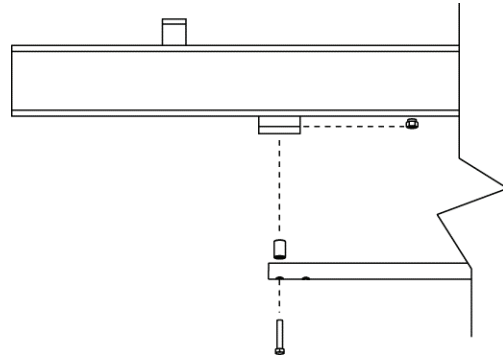
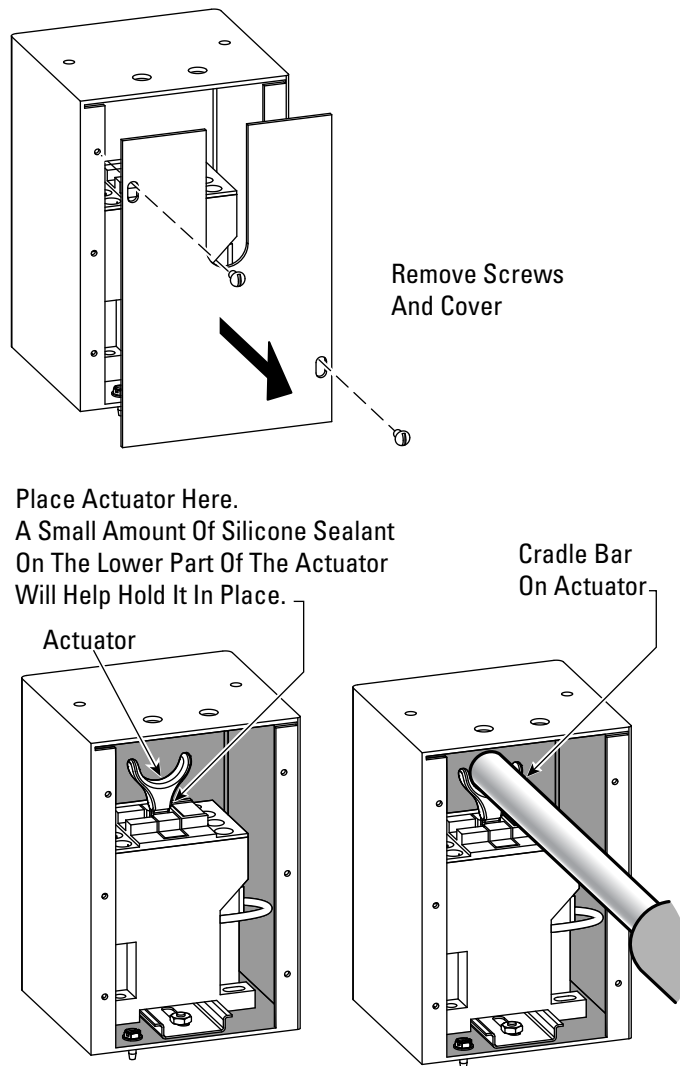

Figure 9
Figure 9a
- B. Slide the end of the padded switchbar without a hole in it through the slot in the overhead switch assembly. Connect the padded switchbar to the overhead beam using a #10-18 X 1-3/4 self-tapping screw and spacer, Figure 9.
- C. For three phase lifts: Remove Limit Switch cover, Fig. 9a. Insert Actuator end of Switch Bar into slot located inside Limit Switch, Fig. 9a. A small amount of silicone sealant on the lower part of the actuator will help hold it in place. Insert 1/4"-20NC x 2" HHCS through pivot hole in end of Switch Bar. Then secure HHCS and Switch Bar to overhead as shown, using 3/4" spacer and 1/4"-20NC Locknut. Tighten Hex bolt leaving 1/16" gap between the spacer and the overhead assembly, Fig. 9. Replace limit switch cover.